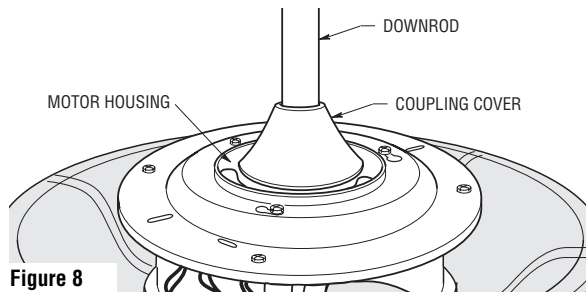

Figure 8
- 18. While pulling up on the downrod, securely tighten the two setscrews in the motor coupling (Figure 8).
- 19. Be sure the grommet is properly installed in the coupling cover, then slide the coupling cover on the downrod until it rests on the motor housing. Be sure that the coupling cover is oriented correctly (Figure 8).